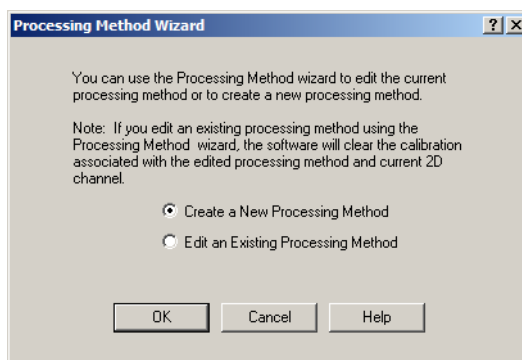

Figure 3-4 Processing Method Wizard Dialog Box
1. Click  (Processing Method Wizard) or select **File > New > Processing Method** to start the wizard and open the Processing Method Wizard dialog box (Figure 3-4).